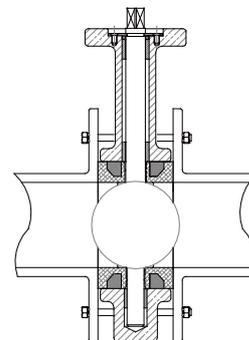

Fig. 3
- Open and close the valve slowly to check the disc centers correctly and does not contact the flange. With the valve open, tighten bolts crosswise and evenly using a wrench (Fig. 3).